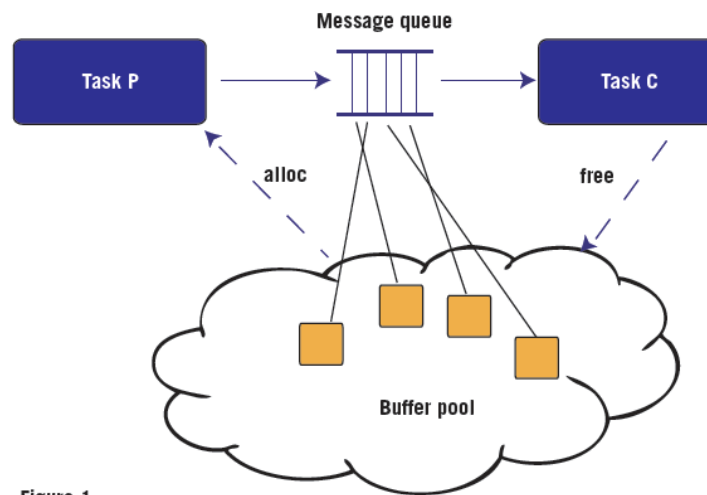

Figure 1
Best practice: There is a simple way to avoid memory leaks and that is to clearly define the ownership pattern or lifetime of each type of heap-allocated object. **Figure 1** shows one common ownership pattern involving buffers that are allocated by a producer task (P), sent through a message queue, and later destroyed by a consumer task (C). To the maximum extent possible this and other safe design patterns should be followed in real-time systems that use the heap.²